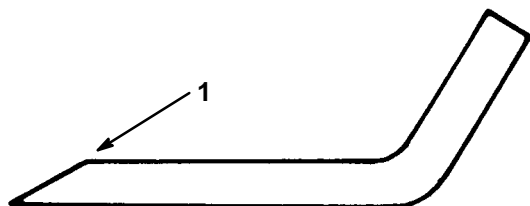

Figure 23
1. Use a file to sharpen the cutting edge at both ends of the blade (Fig. 23). Maintain the original angle. The blade retains its balance if the same amount of material is removed from both cutting edges.